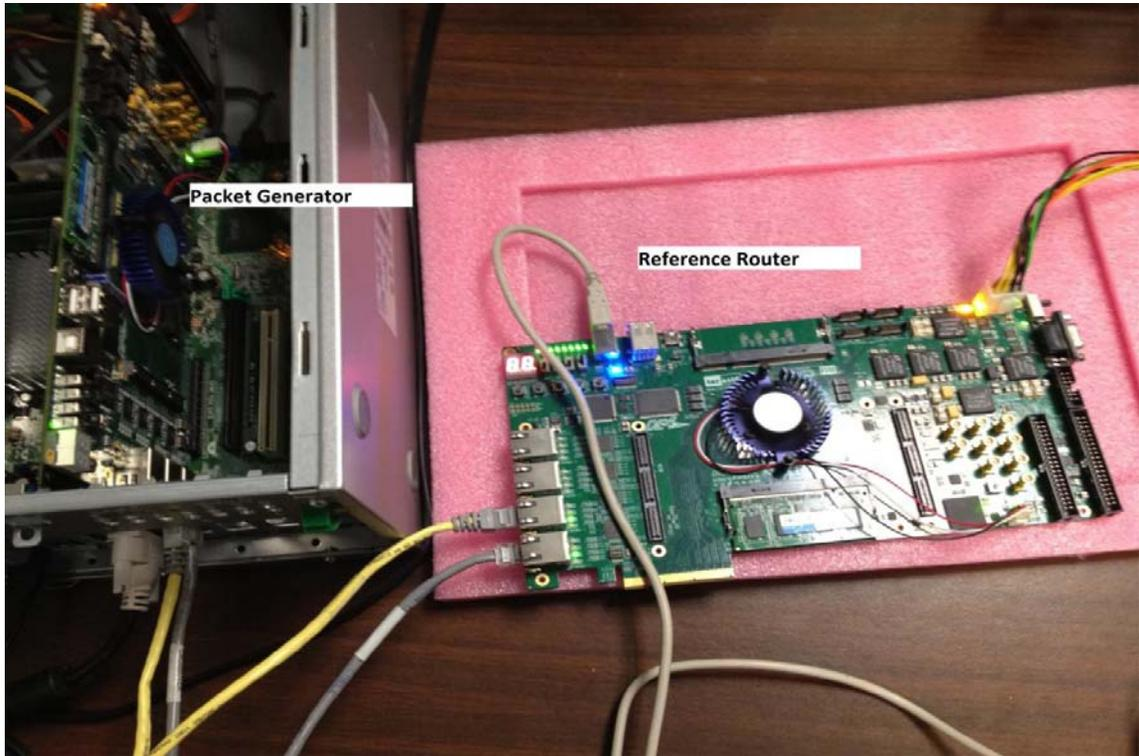

Figure 15: Test setup with JTAG mode DE4 Reference Router
4. If you are operating DE4 Reference router in JTAG mode, connect two gigabit Ethernet cables between packet generator and the DE4 Reference router as shown in Figure 15.